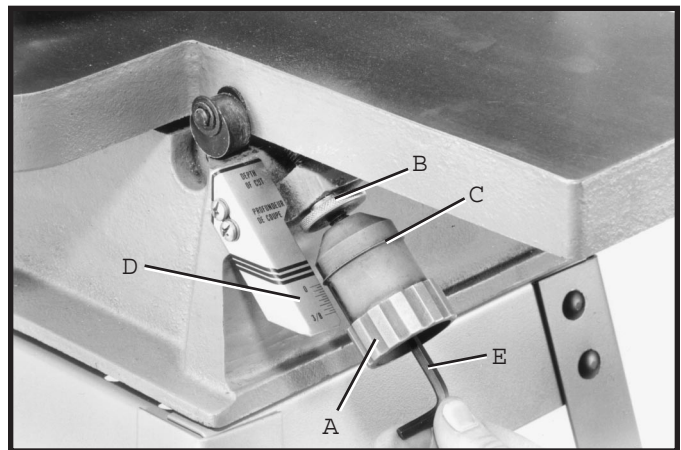

Fig. 34
4. Loosen locking knob (B) Fig. 34, and raise the infeed table by turning adjustment knob (A) clockwise until the infeed table touches the straight edge. The ring (C) Fig. 34, should line up with zero on the depth-of-cut scale (D).
- a] Loosen set screw with wrench (E) inside adjustment knob (A) Fig. 34, as shown.
- b] Turn knob (A) Fig. 34, clockwise or counterclockwise as necessary until the ring (C) lines up with the depth-of-cut scale (D).